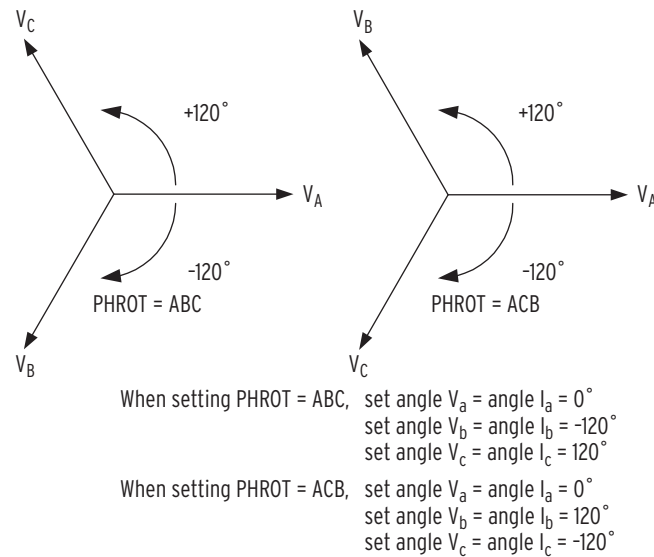

Figure 10.3 Three-Phase Wye AC Connections
If you set the device to accept phase-to-ground voltages (DELTA_Y = wye), set the voltage phase angles as shown in Figure 10.3.
- Step 3. Set the phase current angles to apply balanced three-phase currents in accordance with the PHROT setting. Refer to Figure 10.3.